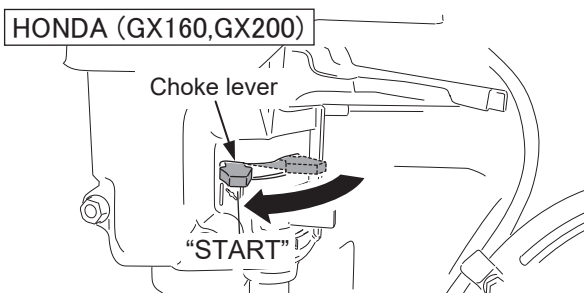

Fig. 7
- 2 In cold weather or when the engine does not start easily, set the choke lever to the "Start" position. This is not necessary when the engine is already warmed up. (Fig. 7)